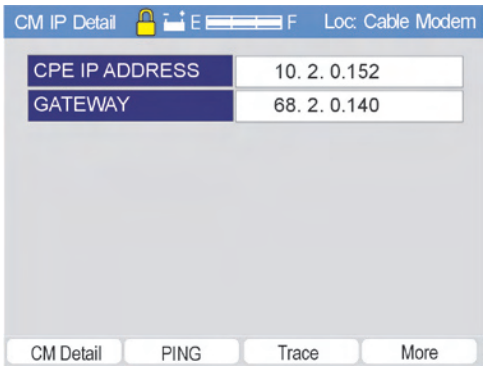

Figure 4-20
**PING Results** - If the user selects PING (F3) as shown in Figure 4-20, the display will provide the selected Ping Address and the results of pinging the address four times, displaying the: Number of BYTES transferred, the TIME required and the TTL as shown in Figure 4-21.